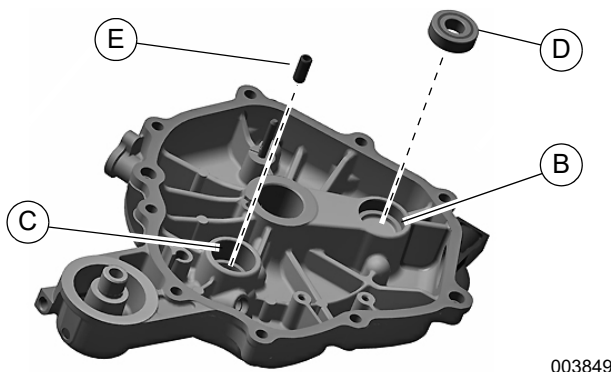

Figure 14-27. Balancer Bearing and Gerotor Dowel
2. See Figure 14-27. Verify gear cover side balancer bearing bore (B) and gerotor bore (C) are clean and free of burrs and debris.